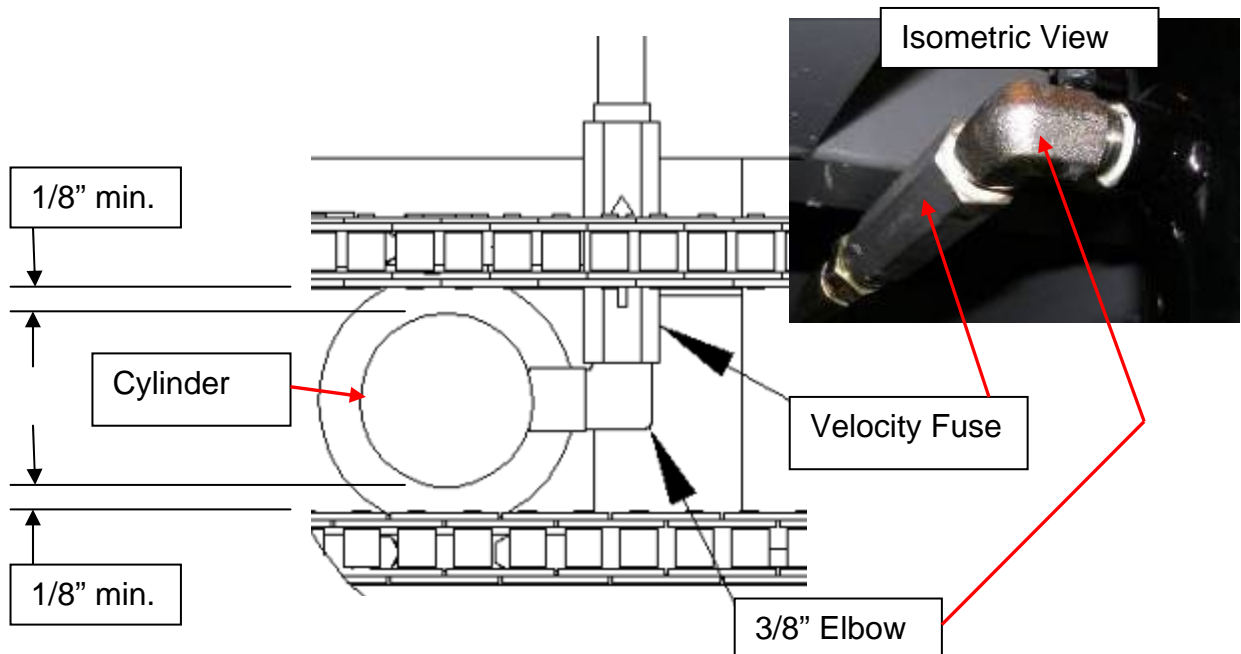

Figure 28 Velocity Fuse Installation – Top View
G. HYDRAULIC INSTALLATION DETAILS (Reference Figures 28 thru 31)
1. Install a 3/8" elbow and hydraulic velocity fuse onto each cylinder as shown in **Figure 28**. The arrow on the exterior surface of the velocity fuse shows the direction of the restriction to the oil flow. The arrow should always point away from the cylinder.